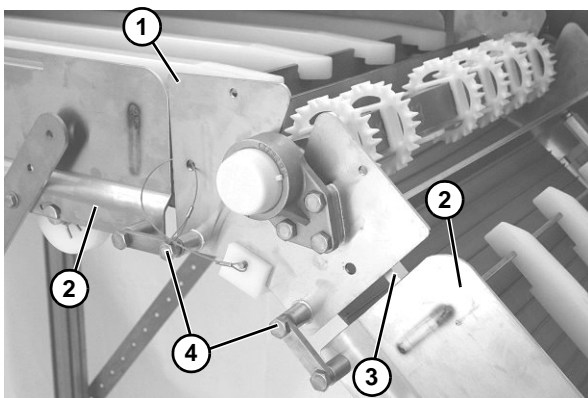

Figure 13
1. Attach upper knuckle (Figure 13, item 1) to frame (Figure 13, item 2) with hex rods (Figure 13, item 3) and bolts (Figure 13, item 4).